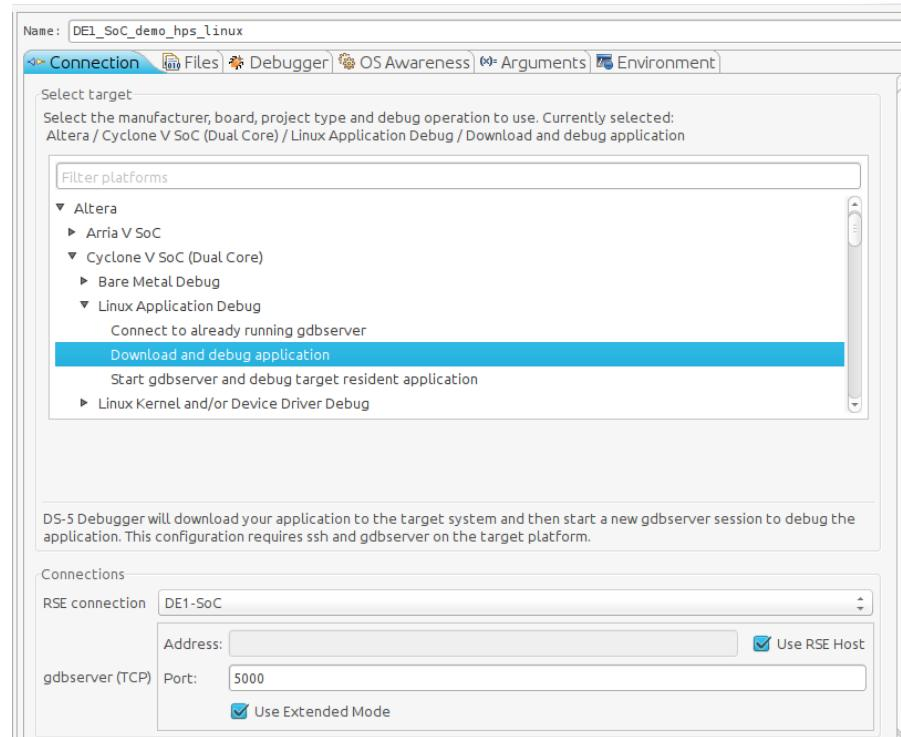

Figure 13-9. Debug Configuration "Connection" Tab
- b. Set the "RSE connection" to "DE1-SoC". This is the remote system connection we created earlier. You should have something similar to Figure 13-9.